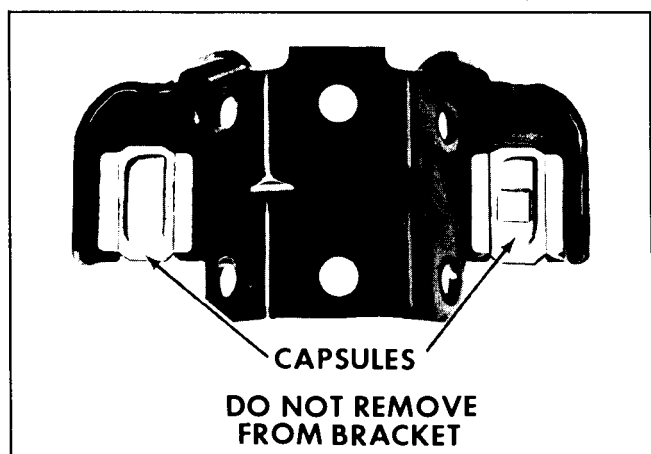

Fig. 9-38 Mounting Bracket Assembly
1. Remove four bolts attaching column mounting bracket. Set bracket aside to protect breakaway capsules (Fig. 9-38).